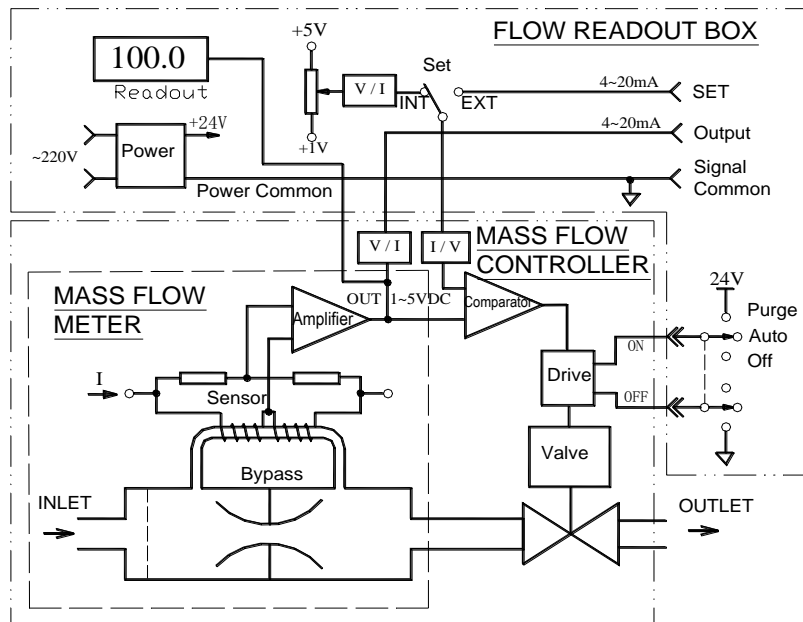
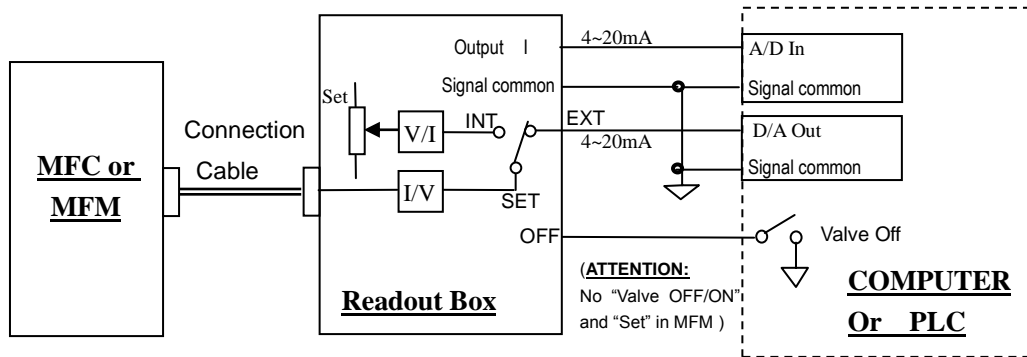

Figure3. Principle of MFC
Figure10. Connection with PC through Readout Box
According to the Capillary Heat Transfer Temperature Difference Calorimetry Theory, the flow sensor measures the mass flow without pressure compensation. The sensor heated the flow signal which was measured by electric bridge and amplified it through amplifier, the amplified flow testing voltage is compared with presetting voltage, the differential signal will control valve after amplified, then the flow rate of closed loop control will be as same as presetting flow rate. The bypass divider controls the flow rate. The corresponding D08 series Flow Readout Boxes have stabilized power supply, 3 and 1/2 digital voltage meter, presetting potentiometer, external & internal converters and three-phase switches. Figure 3 is exactly showing the operating principle while MFC is connecting with Flow Readout Box.
- a. Connection through Flow Readout Box with PC or other external signal. (Figure 10)
If PC or PLC need perform the OFF function of valve control, it could be accomplished by use one RELAYS (two sets) transfer contacts, showing in Figure 10.
Please find the reference in Figure 1 and Figure 10, it should set the switch of Readout Box to the “External” and turn the switch to the position of “CONTROL”, and then startup PC.
When the valve switch sets to “CONTROL” position, users could perform valves control by “CONTROL” wire of external control signal socket, please find the reference in Figure 3 and Figure 10. When valve control wire connects with +15 V, valves will be shutoff; when valve control wire connects with -15 V, valves will be turned to the top of maximum to purge position; when valve control wire hangs in the air, it’s in the auto-control situation.